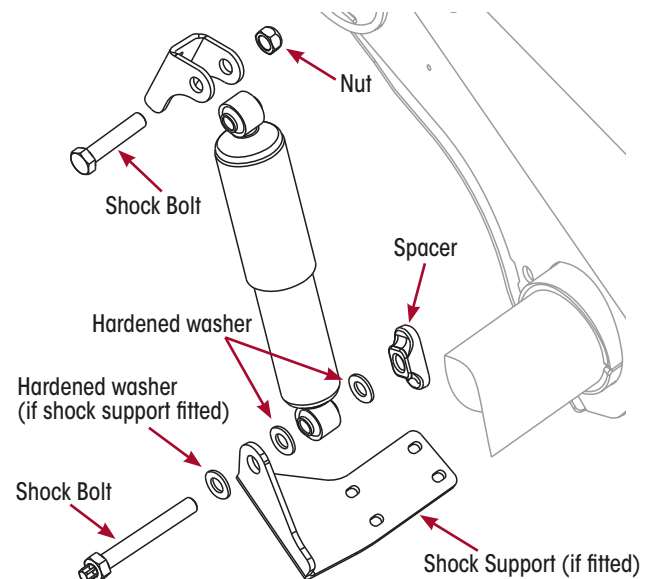

Figure 161: Shock Absorber Installation (AANT shown)
4. Install the upper shock absorber mount to the upper clevis using the bolt and lock nut provided with the kit. Do not fully tighten yet. Refer Figure 161.
5. On suspensions where the HCV lower linkage mounts to the shock absorber mount, install the mount onto the new shear-head bolt before fitting a hardened washer. Otherwise simply slide a hardened washer onto the shear-type bolt. Refer Figure 161.
6. Insert the shear-type bolt through the lower shock support bracket (if fitted), the second hardened washer (only use if support bracket is fitted), the shock absorber mount, the third hardened washer and then the spacer, as shown in Figure 161 and hand tighten.